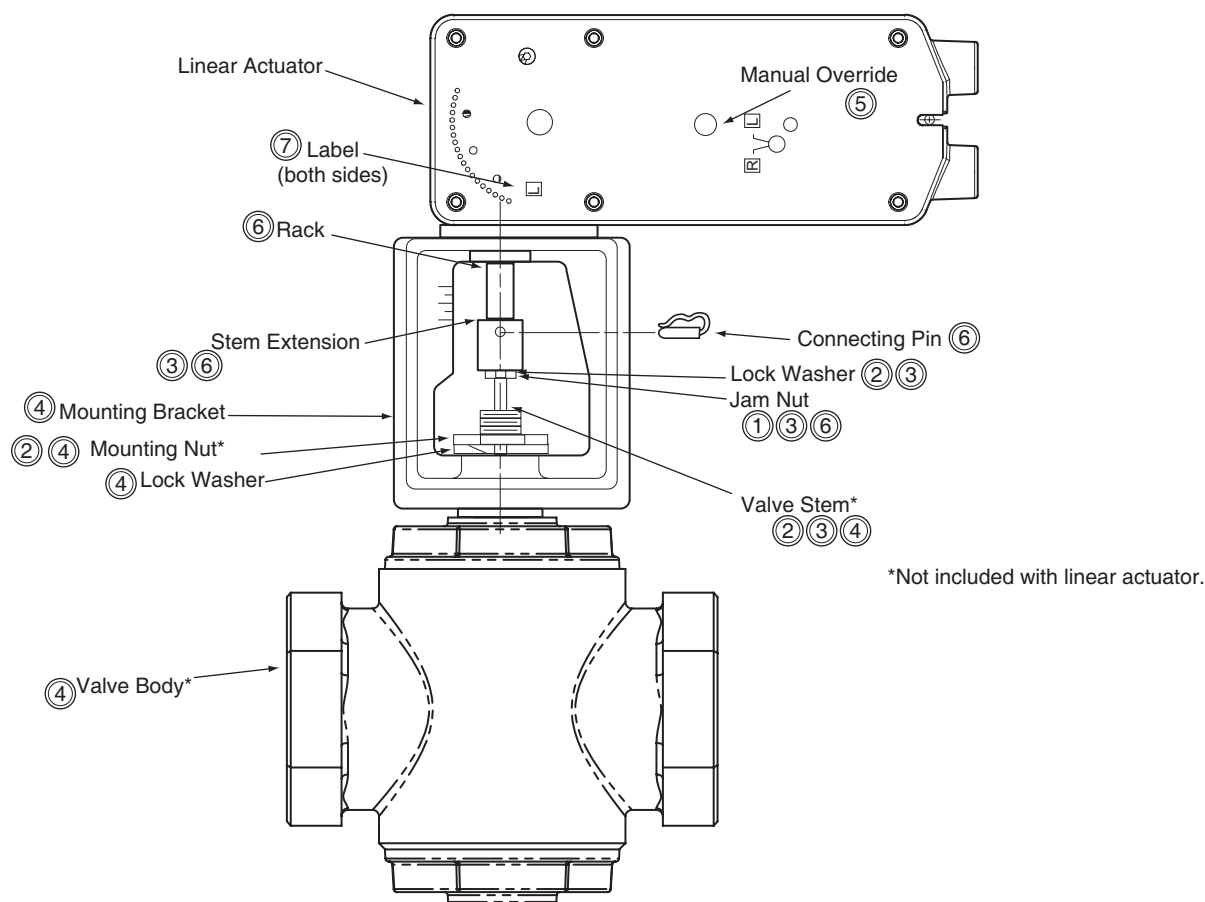

Figure-14 Typical Assembly and Installation.
1. Install the actuator onto the valve. Set up the assembly according to the numbered steps in Figure-14.